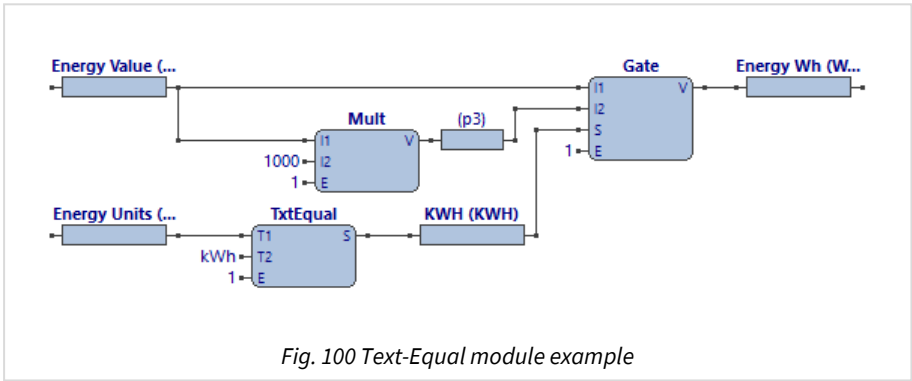

Fig. 100 Text-Equal module example
The ObVerse strategy (Fig. 100) determines whether the text value in the Units (U) property is ‘kWh’ , , and if so it multiplies the Energy Value by 1000 to produce a Watthour value. If the Units value is not kWh, it passes the unchanged value into the Wh property.